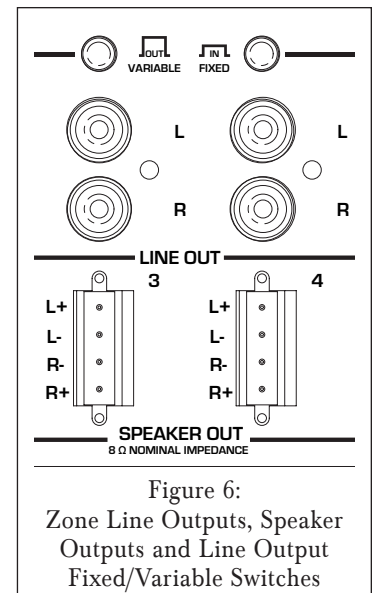

Figure 6:
5. After making sure that there are no stray wires touching each other, tighten the set screws to secure the wires, as shown in *Figure 6*, on page 13.
6. Press the removable connector into the corresponding zone SPEAKER OUT connector on the controller until it locks into place (see *Figure 6*).
In addition to Speaker Output connectors, each zone on the C4630 SE also has a set of Line Output jacks (see *Figure 6*). The Zone Line Outputs let you connect high-power amplifiers to individual zones that require more power than the C4630 SE's built-in 30 Watt/ch amplifier can provide, or expand a zone into sub-zones by using a multi-channel amplifier.
Each zone Line Output has a push-button switch that toggles the Line Output between VARIABLE (OUT) and FIXED (IN). (See *Figure 6*.) The VARIABLE setting allows zone keypad and remote controllers to control the level of the Line Outputs. In the FIXED setting the Line Output level cannot be varied. Keypad and remote control MUTE controls function in *both* the FIXED and VARIABLE settings.